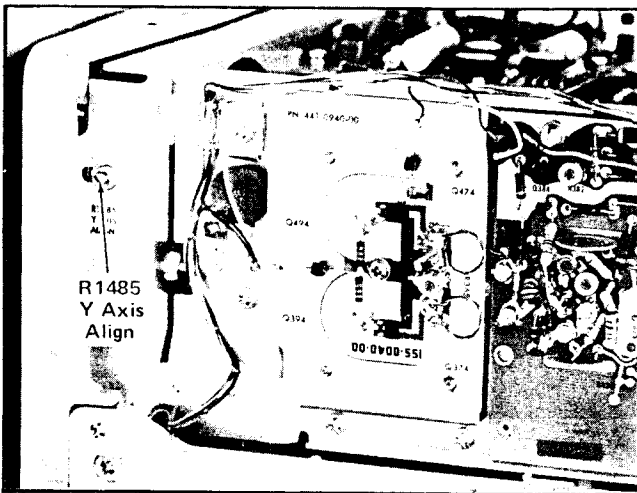

Fig. 5-6. Location of Y AXIS Alignment adjustment (left side).
b. ADJUST—Y Axis Align adjustment, R1485 (see Fig. 5-6) to align the markers with the center vertical line.